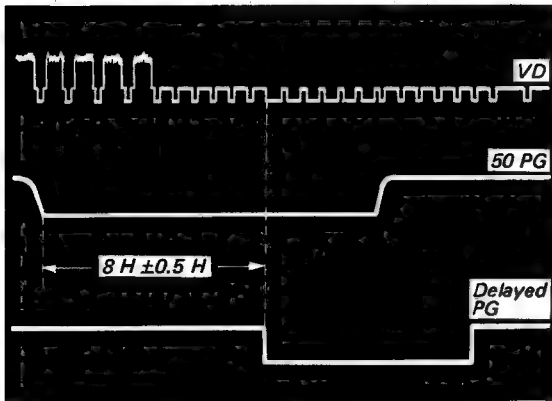

Fig. 4-4.
6. Adjust the 25 PG coil so that the 50 PG pulse leads the VD pulse by $8 H \pm 1 H$. See Fig. 4-4.